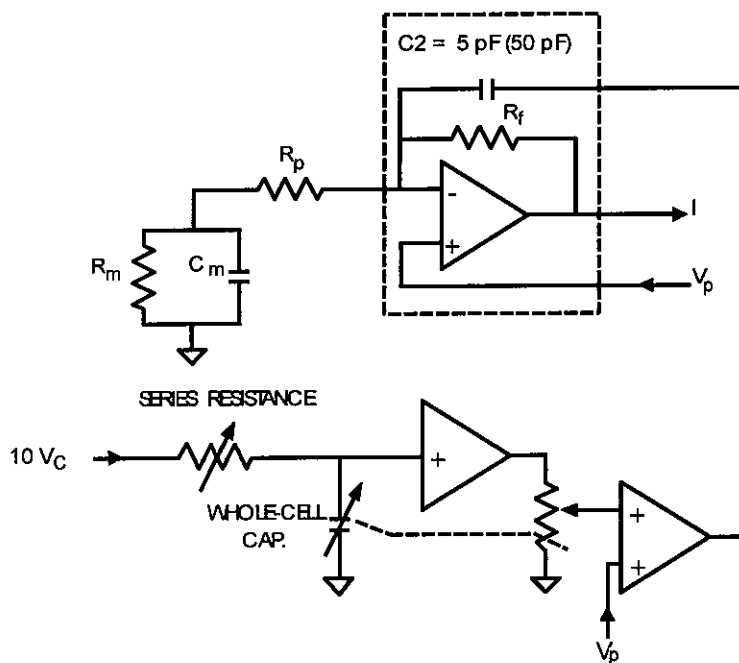

Figure 18. Whole-Cell Capacitance Compensation Circuit
The SERIES RESISTANCE and WHOLE-CELL CAP. controls are used to charge the membrane capacitance (C_m). Figure 18 is a simplified circuit of these controls.
1. **WHOLE-CELL PARAMETERS:** WHOLE CELL CAP. potentiometer and its ON/OFF switch, and SERIES RESISTANCE potentiometer. These controls are used to cancel the whole-cell capacity transient. Their action is coordinated with series resistance compensation controls described below. Note that the WHOLE CELL CAP. switch must be ON to cancel whole-cell capacity transients. Turning this switch OFF disables the signal injected through the C2 capacitor in the headstage used to cancel the capacity transient (Fig. 18); it also disables the PREDICTION potentiometer (see below). With the switch ON (for now assume that PREDICTION is OFF), the signal injected through C2 capacitor has an amplitude that is determined by the setting of the WHOLE CELL CAP. control and a time constant that is determined by the setting of both the WHOLE CELL CAP. and SERIES RESISTANCE controls. Precise canceling the whole-cell capacity transient with these controls requires a unique setting in each case. These settings are accurate representations of R_s and C_m to within 2-3%. As will be described below, the use of PREDICTION will modify the time course of the signal applied to the capacitor C2.